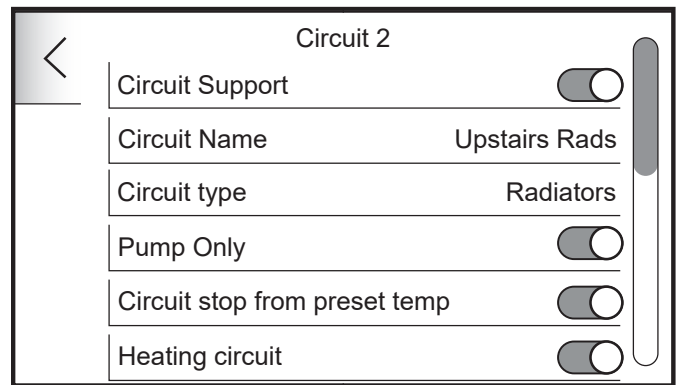

Figure 7-15: Edit Circuit 2 settings
If a mixer is not specified, 'PUMP ONLY' will be automatically set to **ON** within the circuit control settings. This will also display the 'CIRCUIT STOP FROM PRESET TEMP' control within the circuit settings. Refer to Figure 7-15.
4. Swiping the touchscreen display scroll down to 'CIRCUIT STOP FROM PRESET TEMP'. Tap the icon to switch on. (Refer to Figure 7-15).
'PUMP ONLY' must to be enabled. Refer to Figure 7-15.